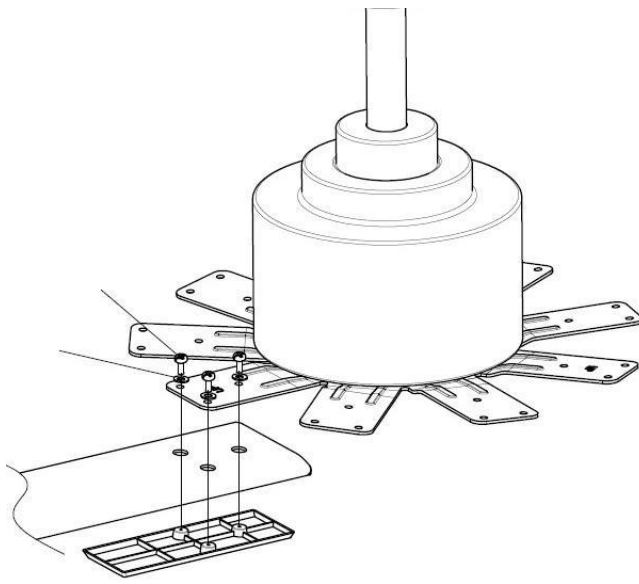

Fig. 17
- Insert the blade screws through the blade assembly in the following order—blade holder, blade and blade bracket kit. Then secure the blade to the blade holder by tightening the 3 screws (Fig. 17).